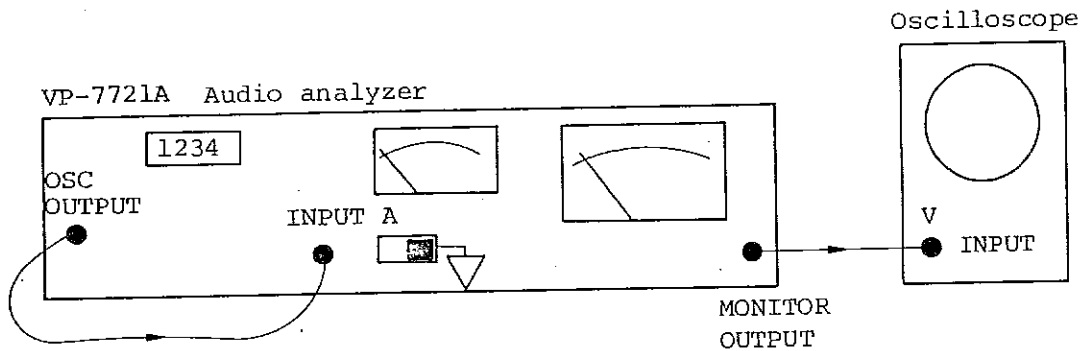

Fig. 4-1 Connection for checking VP-7721A
- 3) Connect the OSC OUTPUT connector to the INPUT A connector of the measurement section to place the analyzer in the self-diagnosis mode. (See Fig. 4-1.) A coaxial cable with BNC plugs is recommended. Set the slide switch (16) to the right for unfloating connection.
- 4) Connect an oscilloscope (1 MHz bandwidth is adequate), to the MONITOR OUTPUT connector (12) as shown in Fig. 4-1. Observing waveforms will help you understand the operation of the analyzer.
- 6) Press the LEVEL key of the MEASUREMENT keys (6) (the LED in the key will light) to select level measurement function.
measurement setup in Fig. 4-1.)
Because connection is made as shown in Fig. 4-1, output from the oscillator is not terminated with a 600-ohm load. Inserting a 600-ohm termination pad at the INPUT A connector causes the level meter to read the value displayed on the digital display in dB or dBm. Otherwise, the level meter indicates a value 6 dB higher than the value displayed on the digital display for both dB and dBm. That is, the unloaded output of the oscillator is measured.